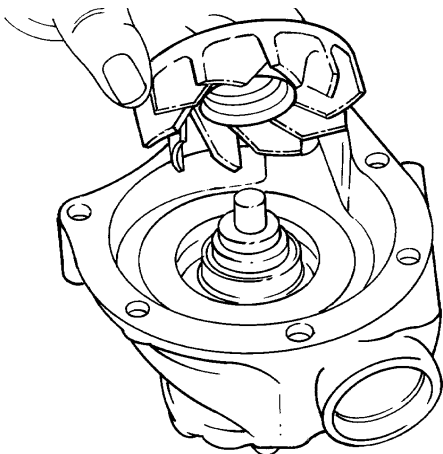

Figure 95 - Coolant Pump Impeller - Installation
- h. Mount the coolant pump impeller over the coolant pump shaft (Fig 95).